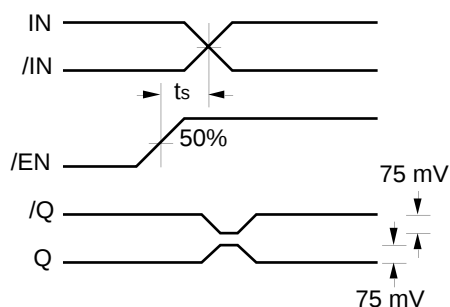

Figure 1. Set-up Time
5. The set-up time is the minimum time that /EN must be asserted prior to the next transition of /IN/IN to prevent an output response greater than  $\pm 75\text{mV}$  to that /IN/IN transition (see Figure 1).